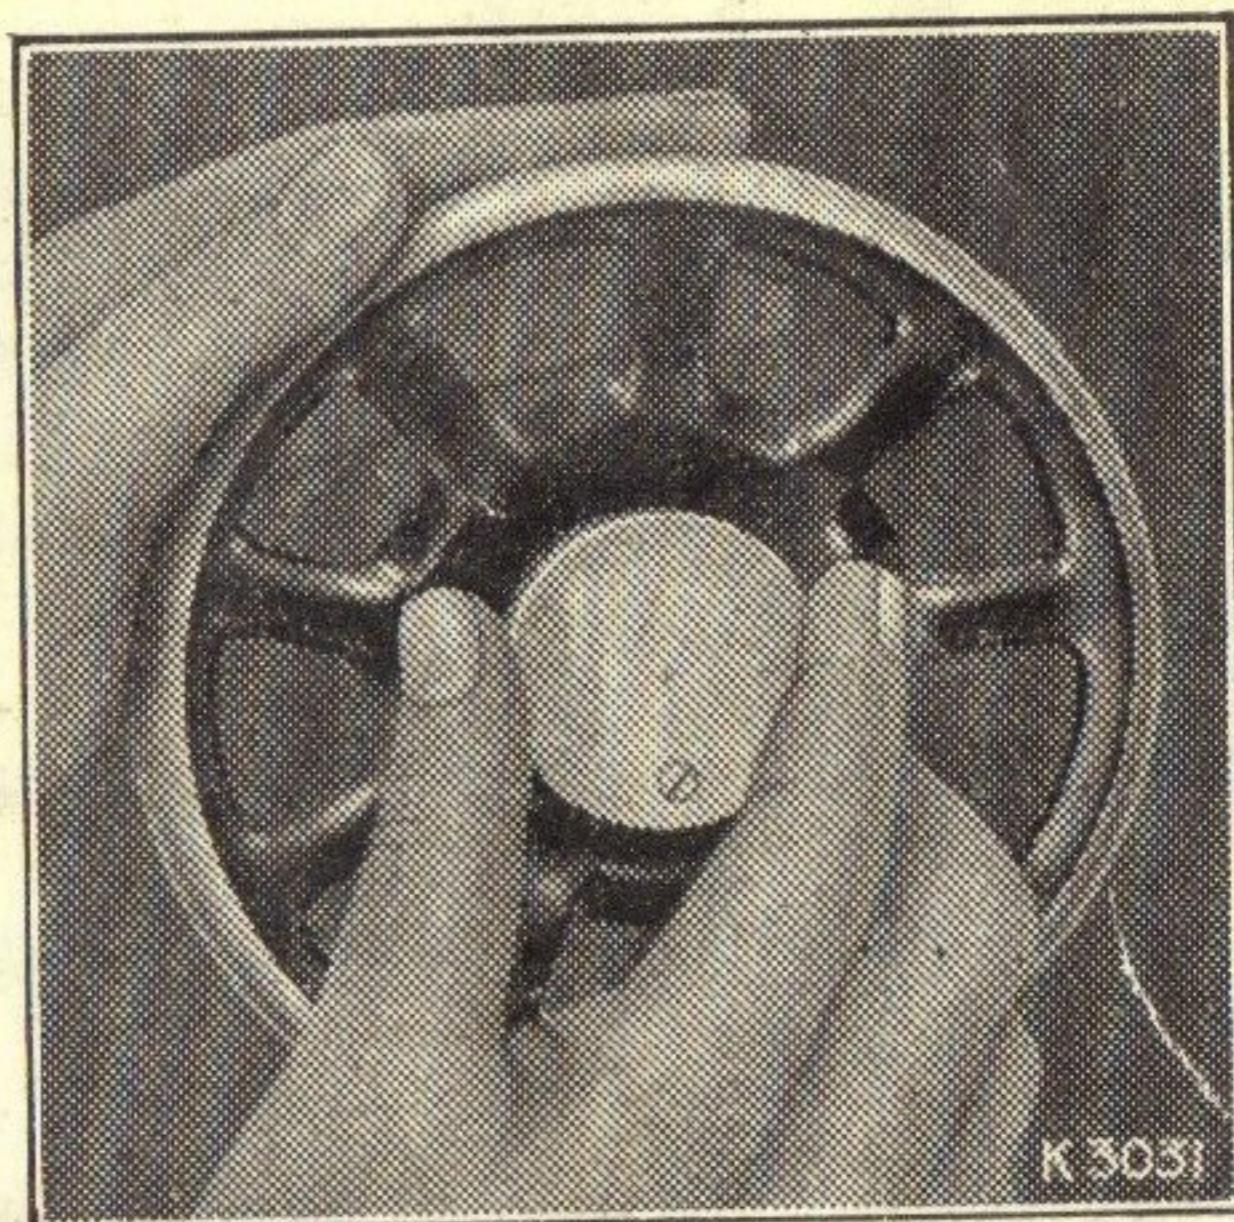
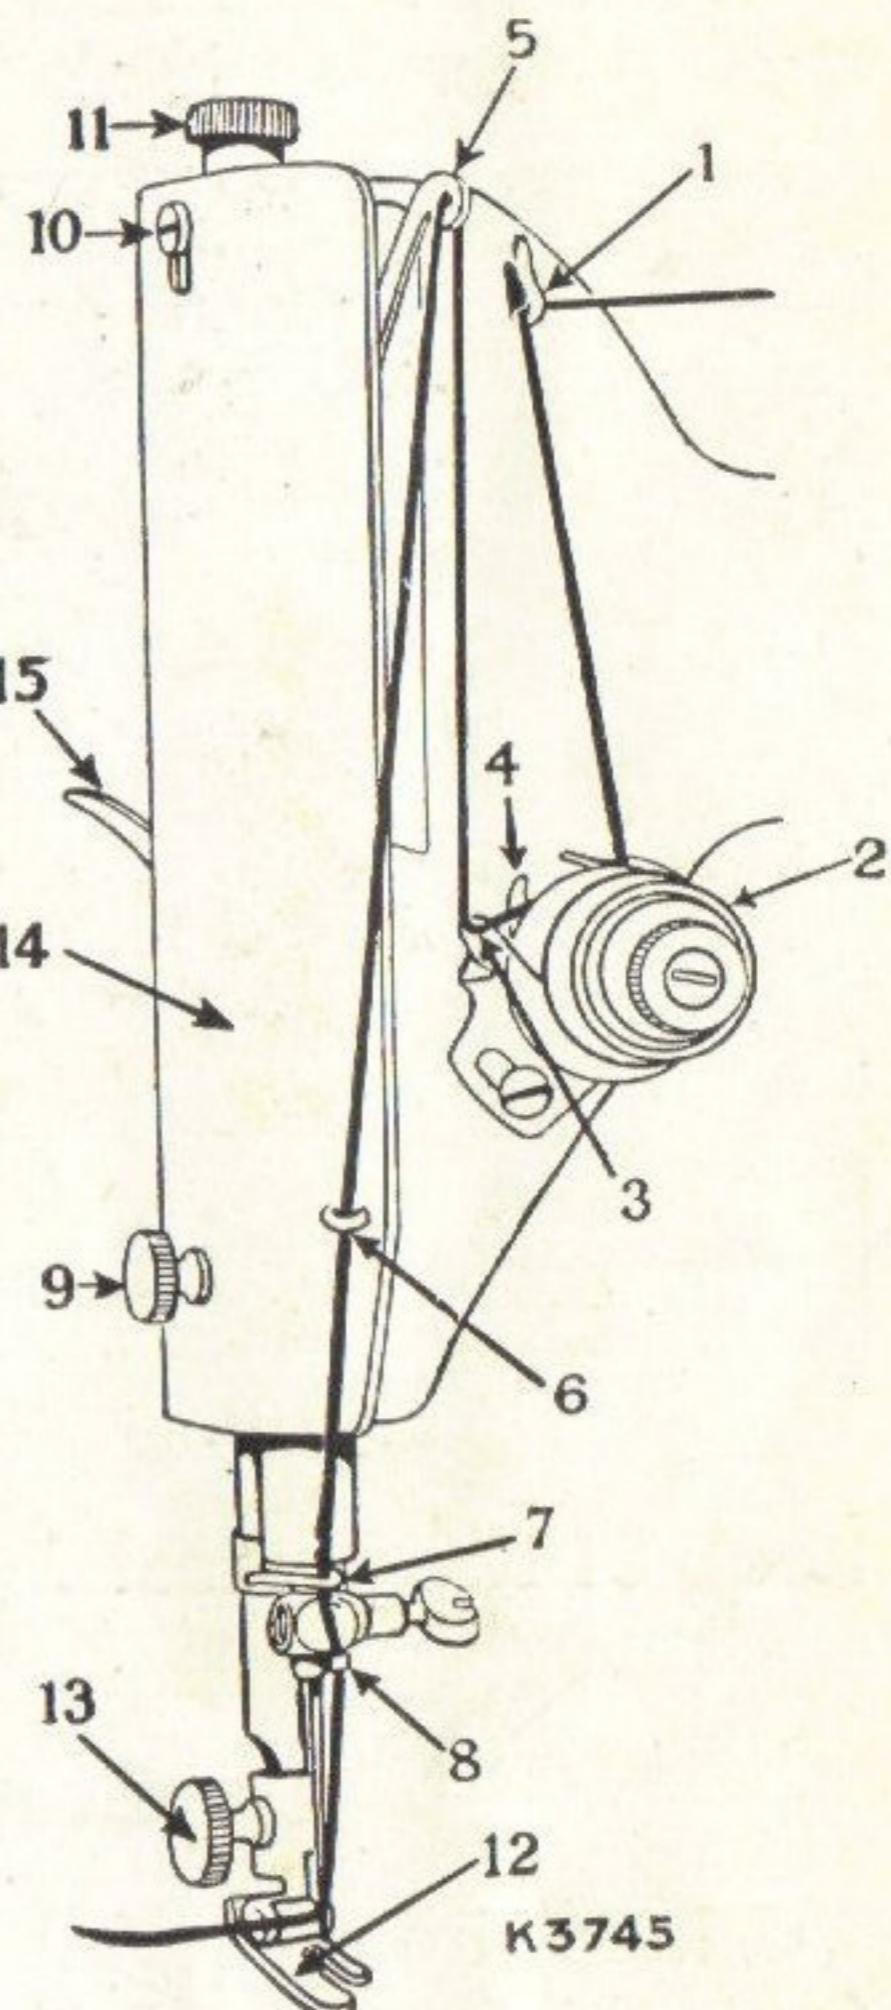
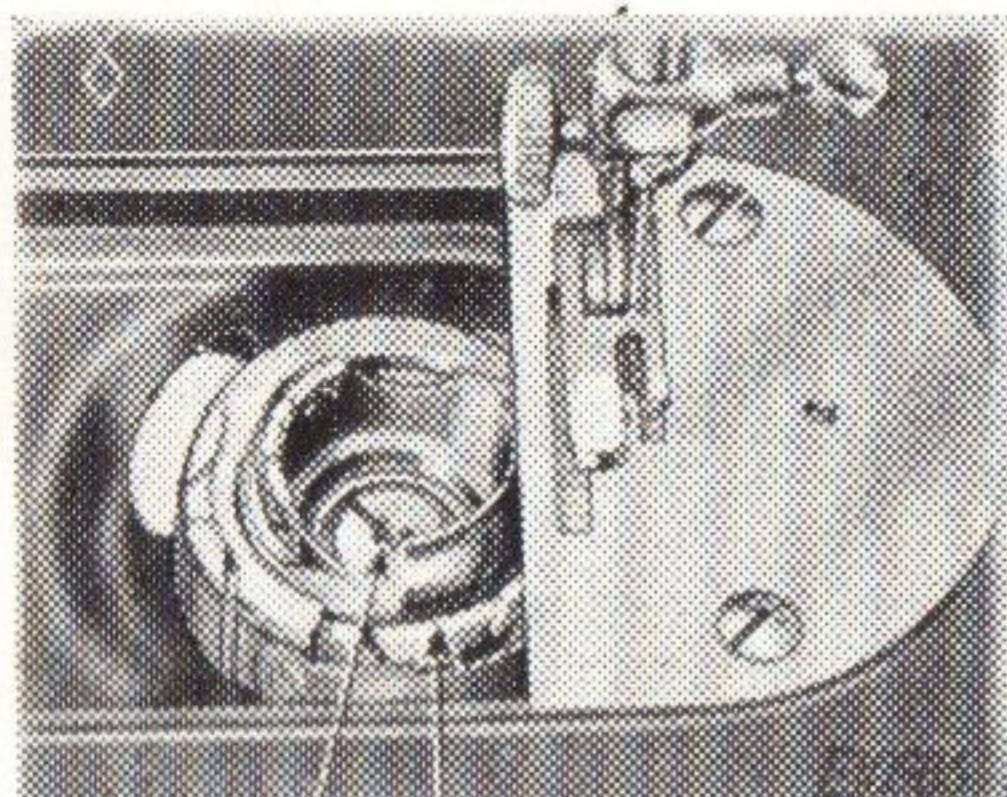

Fig. 1.
Fig. 9.
Fig. 15.
This device allows the balance wheel to run free, so that bobbins may be wound and the correct method of treadling acquired, without operating the stitching mechanism. To loosen the wheel, hold it with the left hand, and with the right hand turn the stop motion screw over towards you, as shown in Fig. 1.
Tighten the balance wheel (see Fig. 1) and place a piece of material under the presser foot (12, Fig. 9). Then lower the latter by means of the lifter (15, Fig. 9). Now **turn the handle over from you** to work the machine, without its being threaded, until you are accustomed to guiding the material with the left hand.
Loosen the balance wheel (see Fig. 1) and place a reel of thread on the pin (1). Place an empty bobbin on the spindle (3) and turn the former until the hole in its right side engages the pin in the spindle shoulder. Draw the thread under and between the tension discs (2) and pass it, from the inside, through the hole in the left side of the bobbin and hold the end of thread. Now press down on the winder and the latch (4) will drop and retain the pulley (6) against the ledge of the balance wheel. Turn the latter over towards you until a few coils are wound and then break off the end of thread. Operate the machine until the bobbin is full, when the winder will stop automatically. Afterwards retighten the balance wheel for sewing.
Upper Threading (See Fig. 9)
Raise the take-up lever (5, Fig. 9) to its highest and lift the presser foot (12, Fig. 9). Move the material back and to the left and sever the threads by passing them over the thread cutter above the presser foot. Leave the ends of the threads a few inches long under and to the back of the presser foot.
For ordinary family sewing it is seldom necessary to change the pressure on the material. If sewing fine silk or flimsy material, lighten the pressure by giving the thumb screw (11, Fig. 9) two or three turns upward. To increase the pressure, give the thumb screw a few turns downward.
To oil the needle bar mechanism, remove the thumb screw (9, Fig. 9) and loosen the screw (10, Fig. 9). Then slip the face plate (14, Fig. 9) up over the latter.
Draw to the left the slide in the bed of the machine, while the thread take-up lever (5, Fig. 9) is at its highest position. Apply one drop of oil to the sewing hook race in the bobbin case, as indicated by arrow "A" in Fig. 15, and a few drops to the oil hole "B" in Fig. 15. Then close the slide.